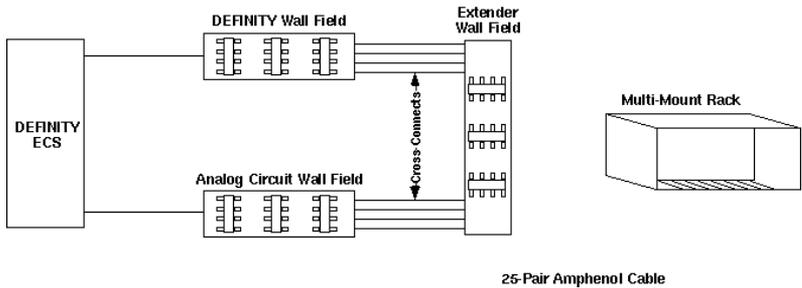

Figure 3-3. Cross-Connect or Wall Field
1. Create a cross-connect or wall field so that the 50-pin Amphenol cable can be used to connect the DEFINITY analog circuit pack (the 8-port TN742 or the 16-port TN746) and dedicated central office lines to the 50-pin Amphenol port on the Multi-Mount Rack (see Figure 3-3). See the *DEFINITY® Communications System Generic 3, Installation for Single-Carrier Cabinets* manual for complete instructions.